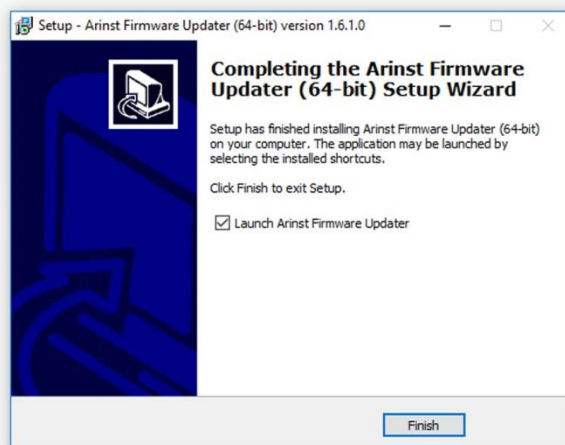

Figure A1.9 – Message from the application installation wizard.
1.8. After completing the loader installation (Arinst Firmware Updater applications), the application installation wizard will inform the user that the application is installed. In order for the application to be launched immediately after exiting the installation wizard, check the box next to the corresponding option. Click **Finish** to exit from installation wizard (Figure A1.9).